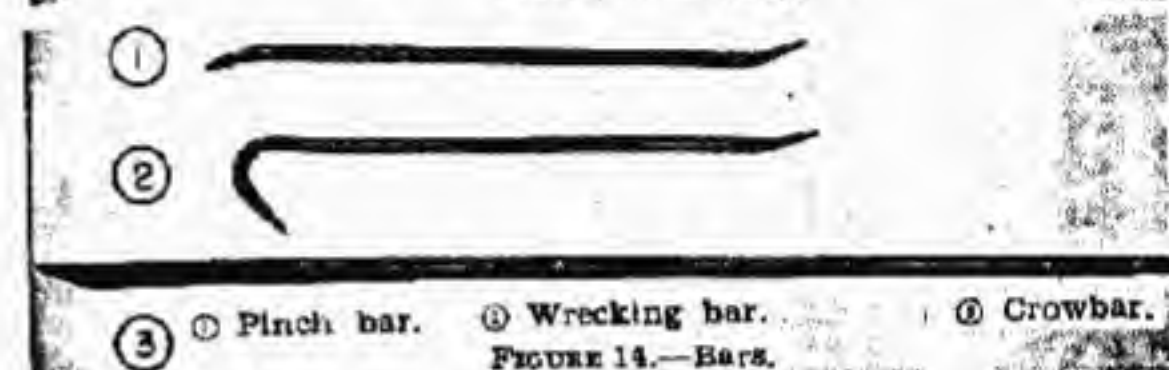

FIGURE 14.—Bars.
k. Bars (see fig. 14).—There are several kinds of bars, of varied shapes: crowbar, wrecking bar, pinch bar. These are prying tools and are used as levers. In using these bars, secure as much leverage as possible and take small "bites" each time. Be satisfied with relatively small movement at the cost of little effort, instead of doing excessive work to make a large move.